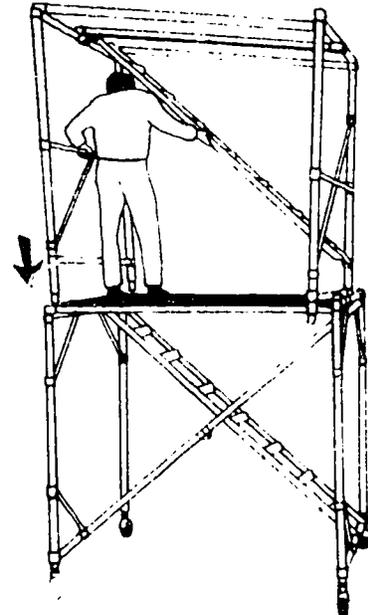

FIGURE 23. Raise the other end and slip the legs into the sockets
h. Raise the other end by pulling on the floor braces until the other end frame becomes vertical. Slip the legs of the frames into the sockets and lock the stairway hooks into position, as shown in Figures 23 and 24. Place the plywood platform over the locating pins on the supporting tubes.